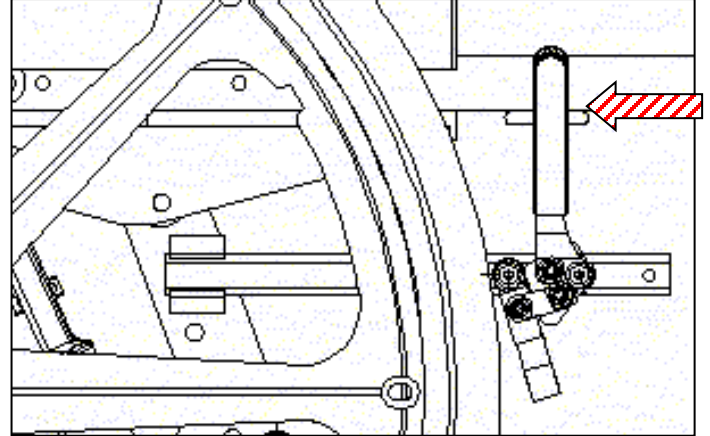

Figure 34-B: Push brake **DISENGAGED**.
- a) To engage the brakes, push forward on the lever (see Figure 34-A);